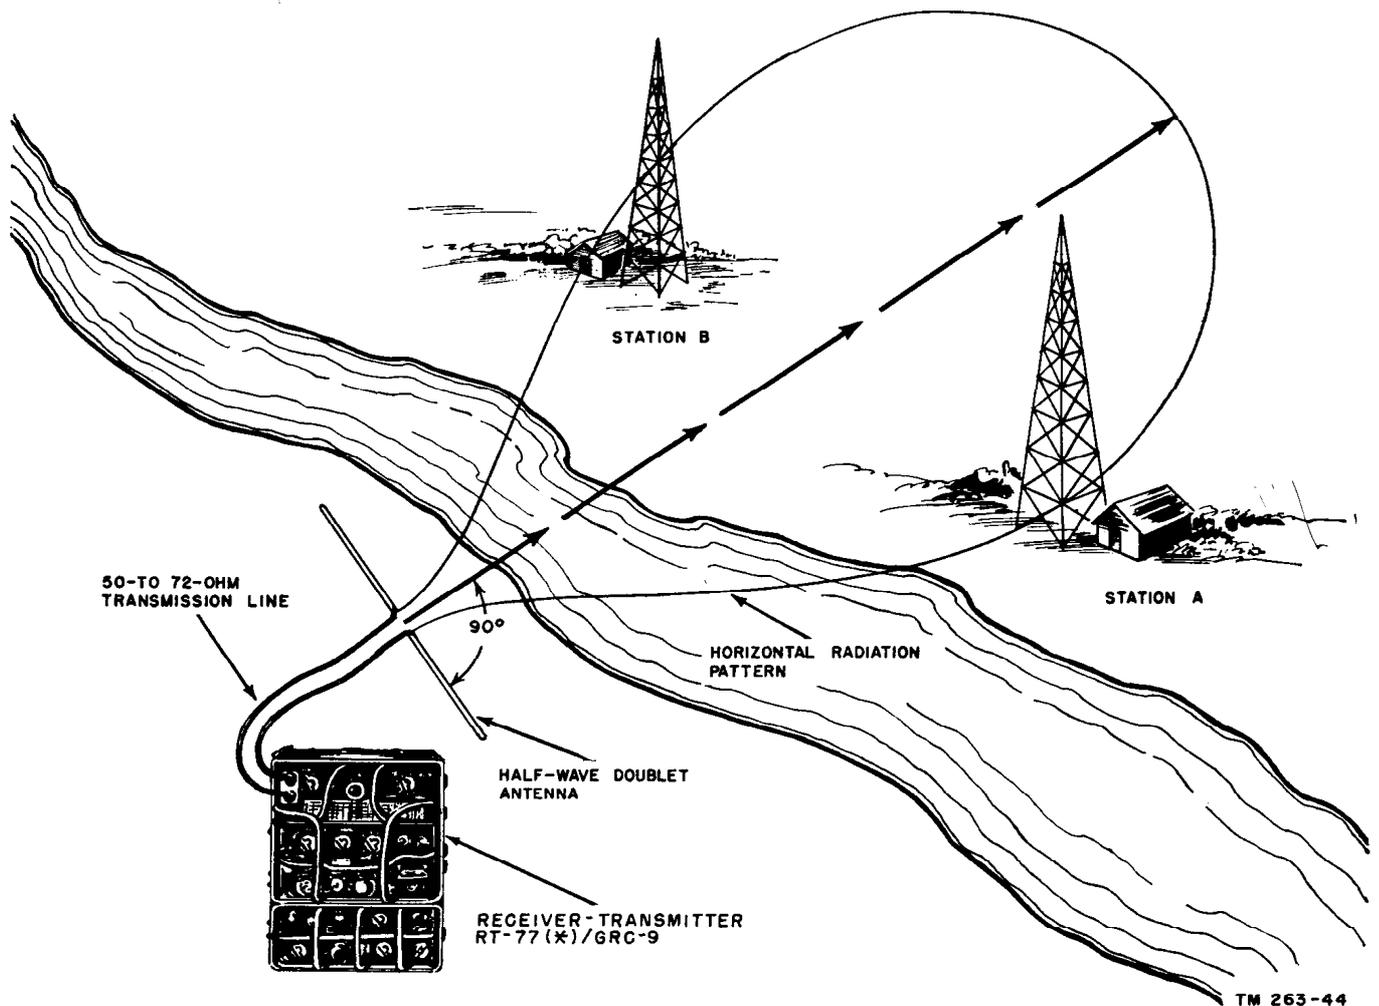

Figure 27. Orientation of half-wave doublet antenna for maximum range.
a. The lead-in or feeder to the doublet antenna should be a 50- to 72-ohm transmission line, whose ends are attached to the ANT. and DOUBLET binding posts on the transmitter panel. A doublet antenna must not be used unless the exact locations of the other radio stations are known or there is enough room to swing the antenna around to determine its direction. The correct orientation is shown in figure 27. One of the two lobes is omitted for clarity. A doublet antenna transmits equally well in two directions, 180° apart, and has nulls, or near zero output positions, 90° from the maximums. The maximum lobes are about 50° wide for useful radiation, but the nulls are very sharp. This fact can be used to determine